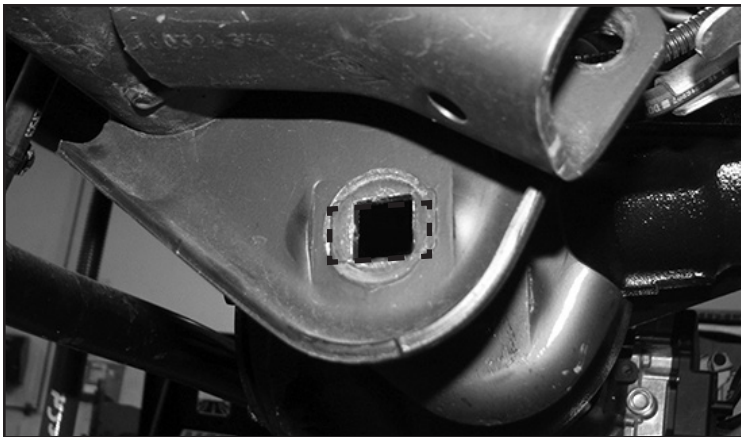
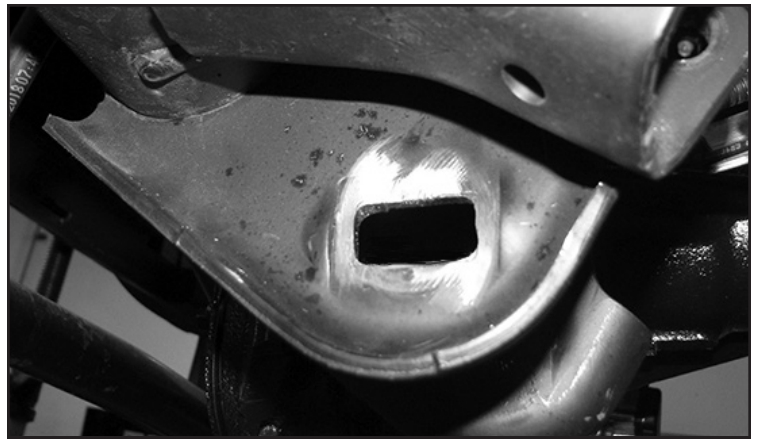

FIGURE 3 - STEP 3
FIGURE 4 - STEP 3
3. Locate the lower control arm pocket. Notice the stamped rectangle on the outside. **FIGURE 3.** This will need to be ground out like shown in **FIGURE 4** on both the outer and inner pocket bracket.